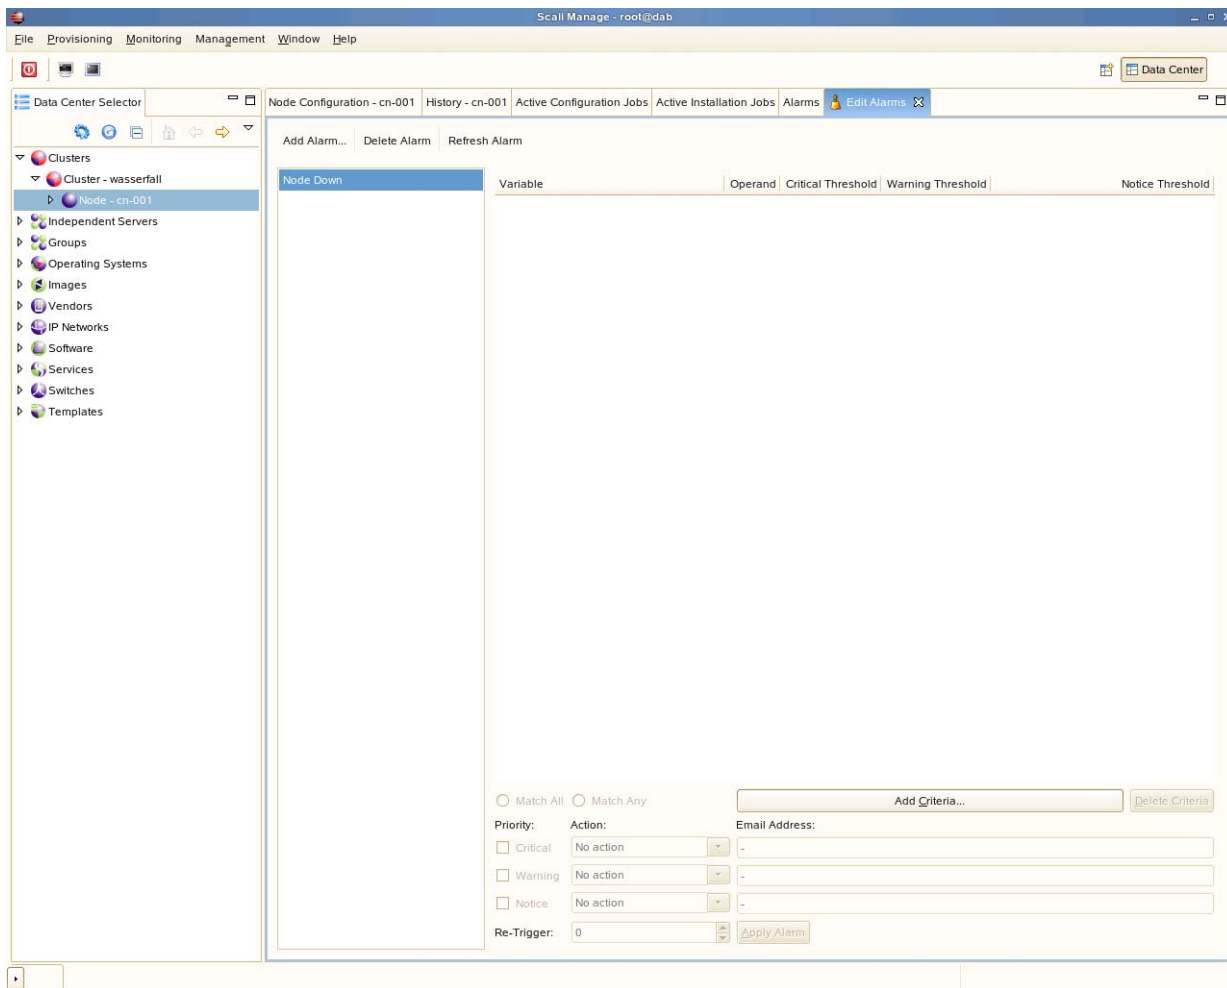

Figure 2-16 Add Criteria Screen Example
6. At this time you must enter the criteria that trigger the alarm. Click on "Add Criteria" (see Figure 2-16 on page 40.)